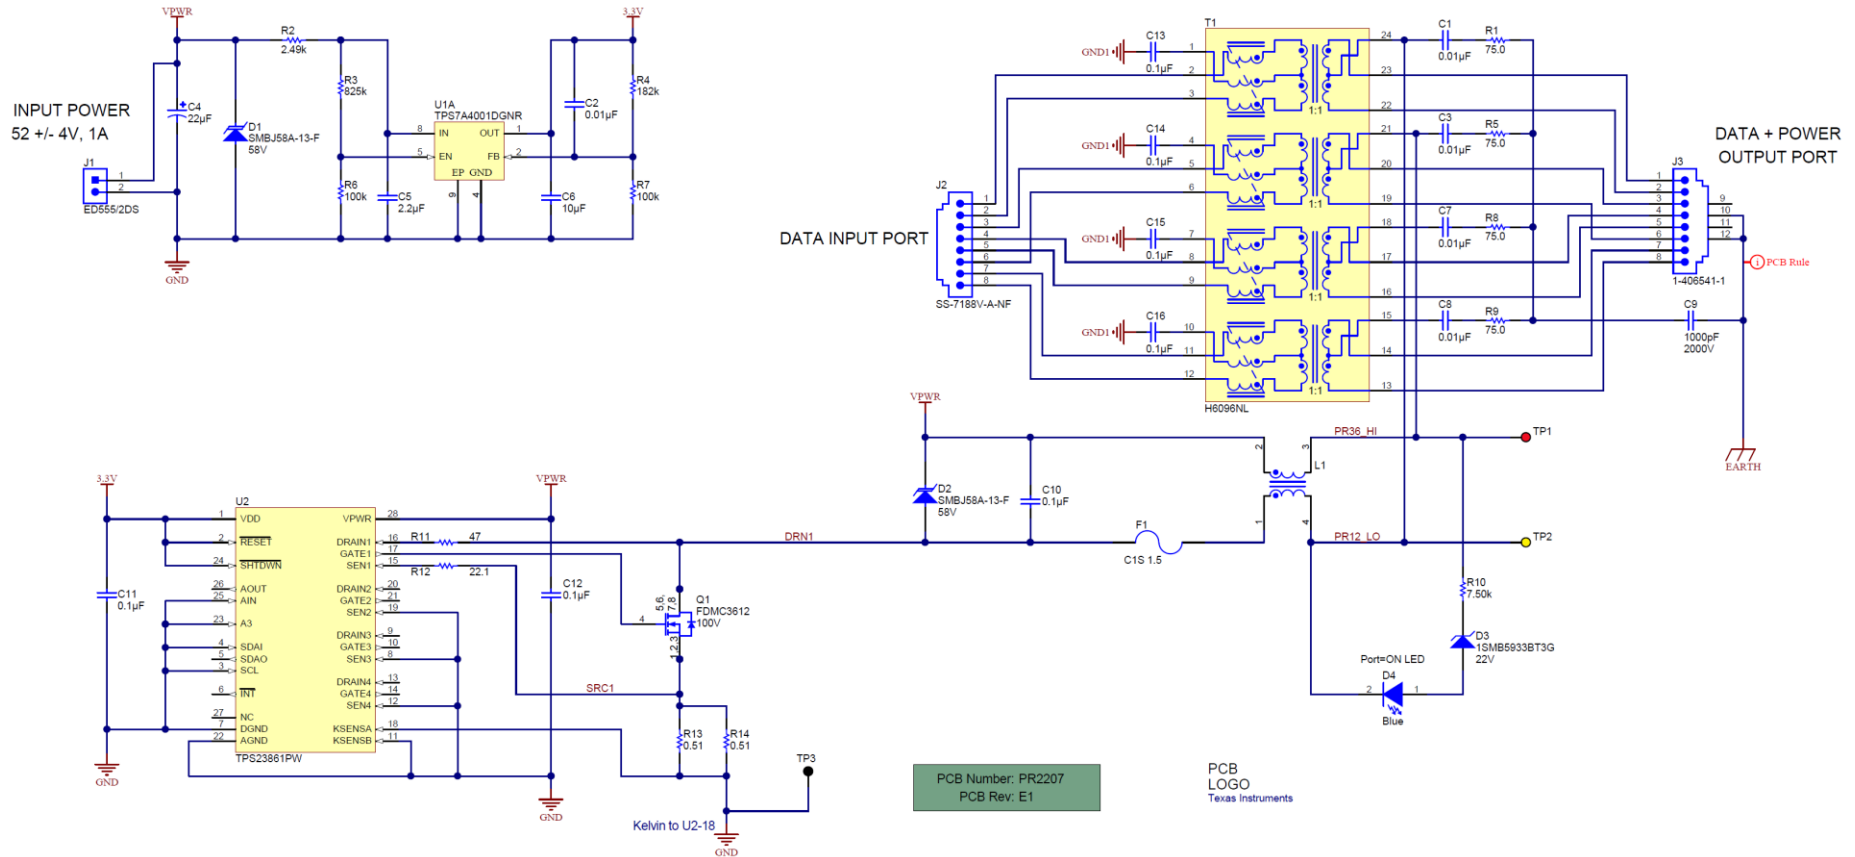

Figure 3 TIDA-00465 Schematic
- The TIDA-00465 schematic is shown in Figure 3.